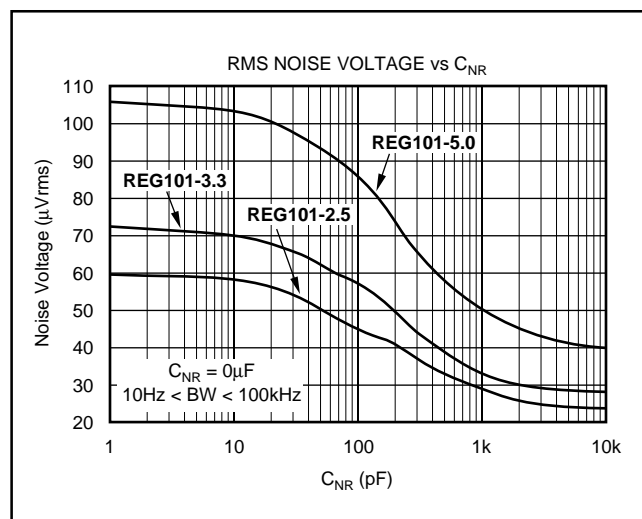
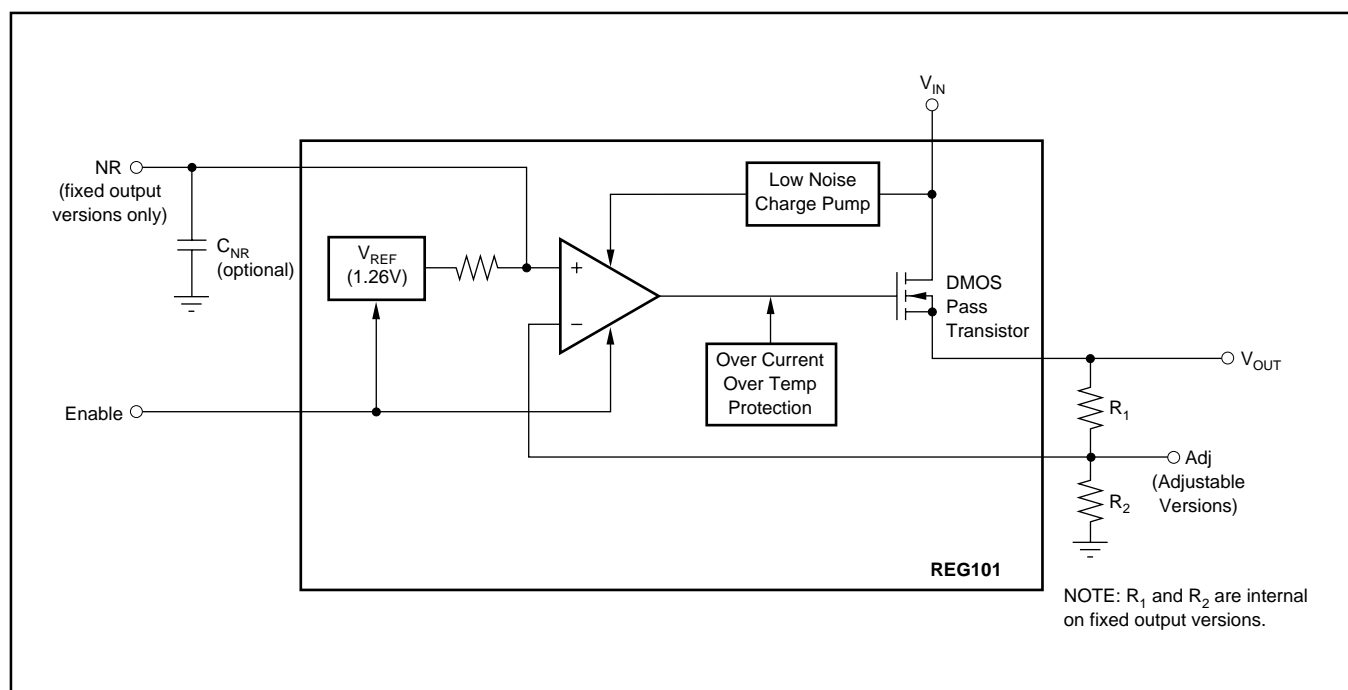

FIGURE 5. Output Noise vs Noise Reduction Capacitor.
FIGURE 4. Block Diagram.
Connecting a capacitor, C_{NR} , from the Noise Reduction (NR) pin to ground, as shown in Figure 4, forms a low-pass filter for the voltage reference. For $C_{NR} = 10nF$, the total noise in the 10Hz to 100kHz bandwidth is reduced by approximately a factor of 2.8 for $V_O = 3.3V$. This noise reduction effect is shown in Figure 5 and as “RMS Noise Voltage vs CNR” in the Typical Performance Curves section.